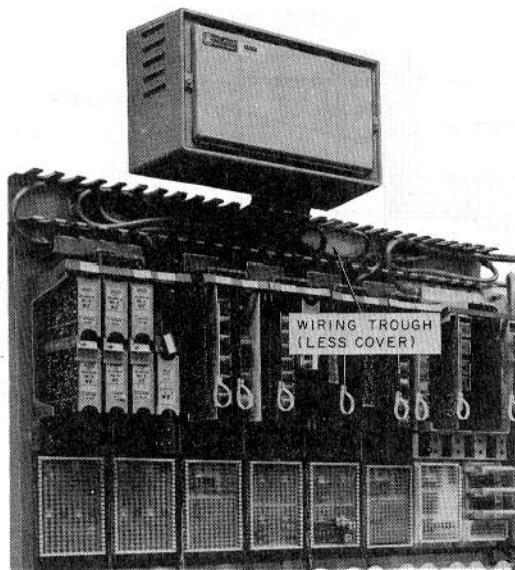

Fig. 11—Installation Using Wiring Troughs for Power Cabling
- (6) The 79B1, 79B2, and 90B1 power units are to be mounted above the cluster of modular panels they service with top of unit(s) 7 feet 5 inches from the floor. Add 1 inch to this dimension if wiring trough is used.
- (7) Fasten the backboard plate assembly to the wall using appropriate fasteners.
- (8) Hang power unit on backboard and secure it with the machine screw(s) provided.
- (9) Plug single-ended power interconnect cable of modular panel into appropriate connector of power unit. If it will not reach the power unit, use a P12D cord (Table D) to complete the connection. To disconnect power cord, squeeze the tabs on the top and bottom of the power cord connector and pull out.
- (10) Wiring troughs (Fig. 11) may be used to hold excess loops of power cable and improve the appearance of the installation. Mount the troughs horizontally on the wall directly above the modular panels (mounting screws to be